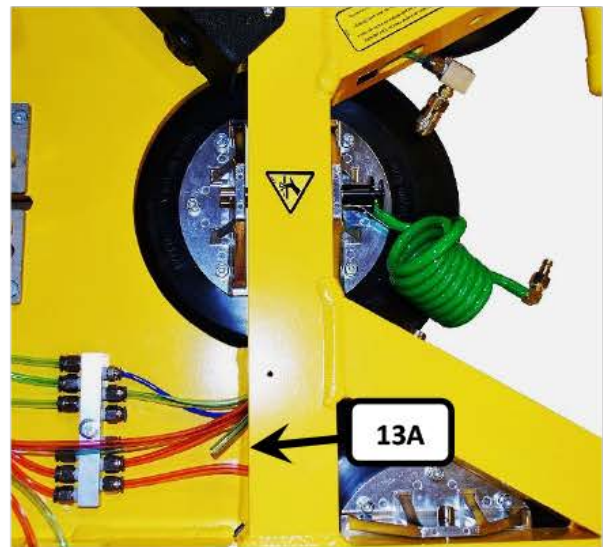

FIGURE 13
17) Remove the two screws securing the quick connect manifold. If the hose for this quick connect (13A) is still attached to the pad system manifold, disconnect it. Pull the quick connect manifold out of the tube, taking care to not pull the opposite end of the hose, that connected it to the pad frame manifold, into the pad frame. See FIGURE 13.